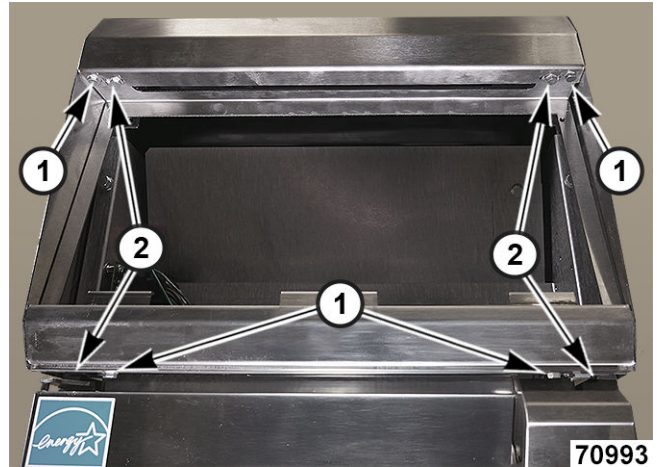

Fig. 36
3. Remove bullnose bolts (1, Fig. 36).
4. Remove control panel box bolts (2, Fig. 36).